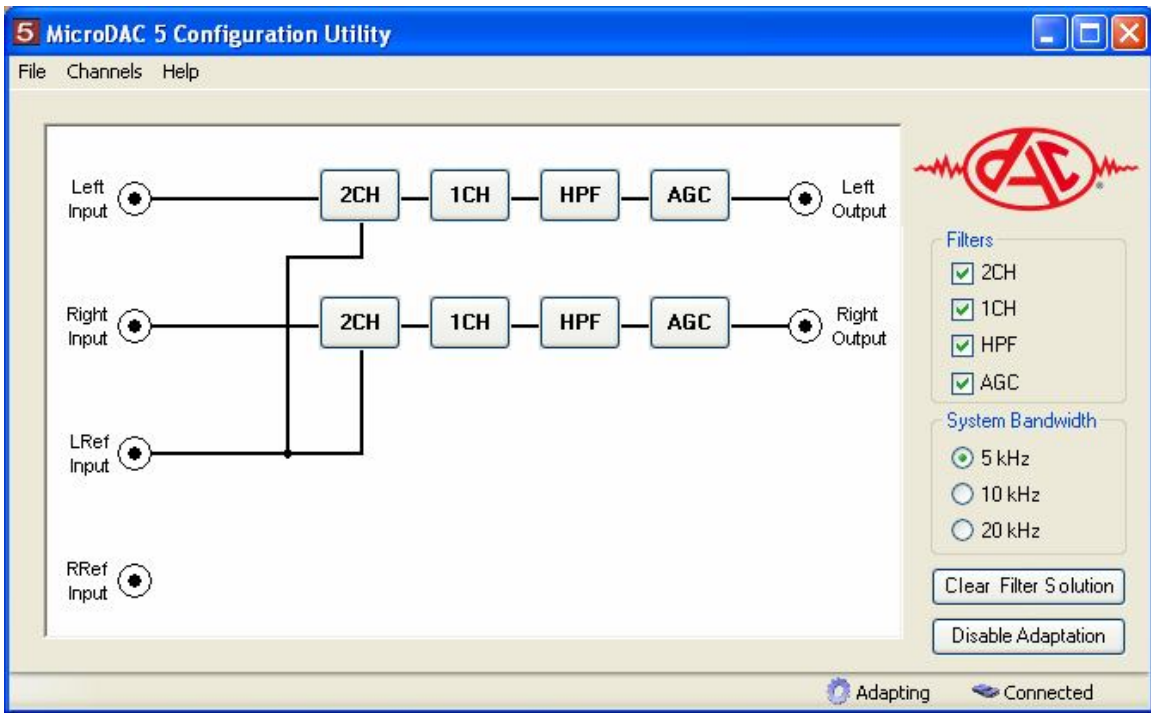

Figure 5-8: Stereo 2CH
- 2CH: Reference for both signals is LRef Input (see Figure 5-8)